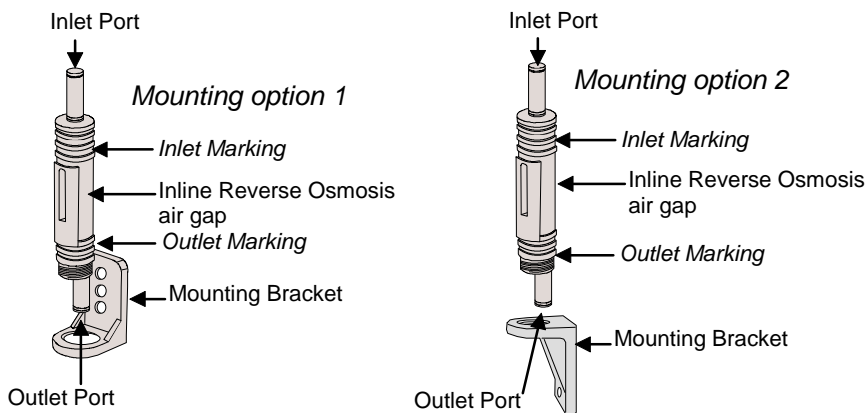
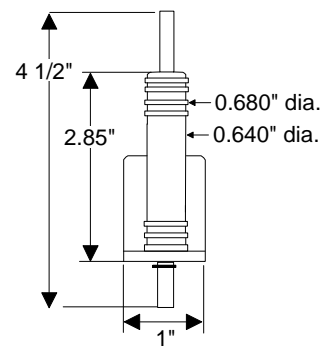

Fig 1-1
Fig 1-2
2. Check inlet and outlet ports marking on AG110-001 body and install AG110-001 into the threaded opening of the mounting bracket as shown on FIG 1-1 (mounting options 1 and 2), for dimensions see FIG 1-2.